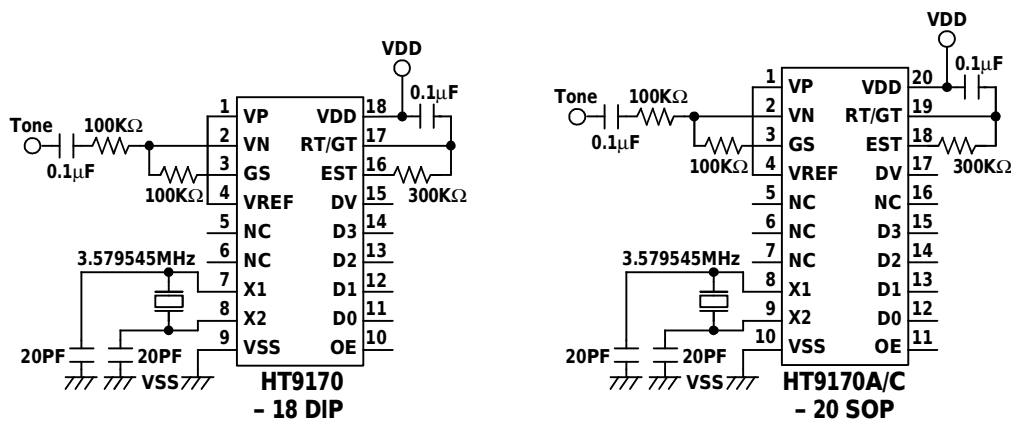

Figure 1. Test circuit
**AC Electrical Characteristic: Using test circuit of Figure 1.**
Timing Description: Using test circuit of Figure 1.